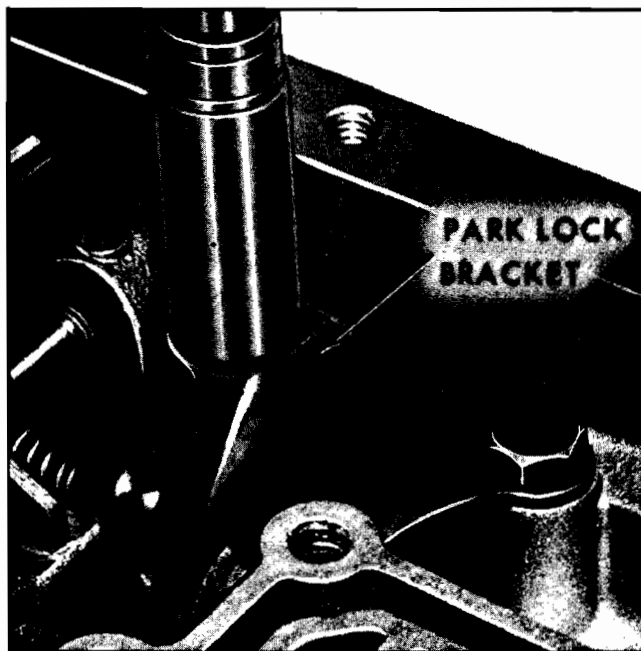

Fig. 7F-38 Removing Parking Lock Bracket
a. Remove bushing by placing screwdriver in notch in case. Tap screwdriver with hammer to collapse bushing and remove (Fig. 7F-42).